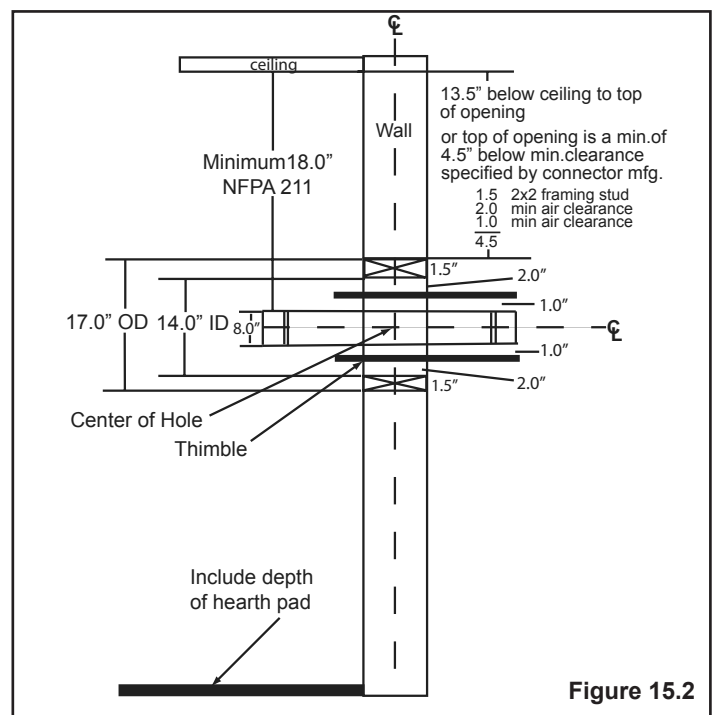

Figure 15.2
- Top of wall opening is a minimum of 13-1/2 inches (343mm) from ceiling or 4-1/2 inches (114mm) below minimum clearance specified by chimney connector manufacturer. NFPA 211 minimum vertical clearance of 18 inches (457mm) from chimney connector and ceiling or minimum recommended by chimney connector manufacturer. **Figure 15.2**
1. Open inside wall at proper height for the chimney connector to enter the masonry chimney. **Figure 15.2**
3. Construct a 17 inch x 17 inch (432mm x 432mm) outside dimension frame from 2 x 2 framing lumber to fit into wall opening. Inside opening of frame should be no less than 14 inch x 14 inch (356mm x 356mm). **Figure 15.2**